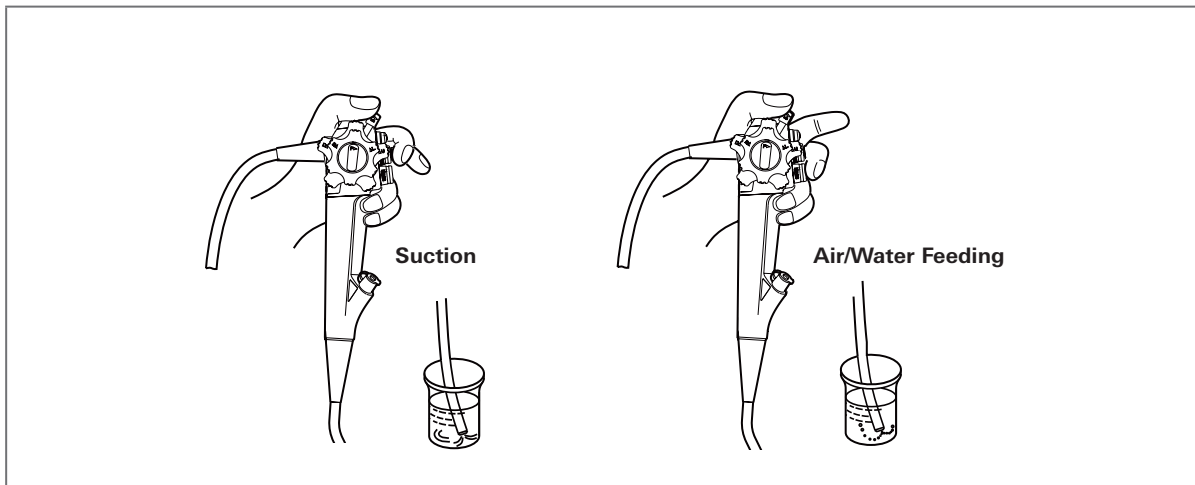

Figure 3.4
- Connect the suction flexible tube of the suction unit and the suction connector of the light guide connector of the video endoscope. Switch on the power supply of the suction unit, then dip the distal end of the endoscope in water, and control suction through the suction valve of the endoscope. (See Figure 3.4)
- Turn on the air pump, operate the air/water valve to control air/water feeding, and make sure that the function is normal. (See Figure 3.4 (right figure))